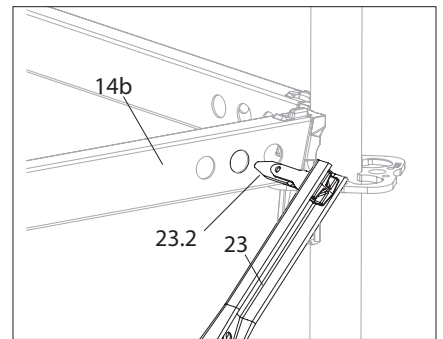

Fig. A4.07d
4. Insert the tilt finger into the hole of the upper horizontal ledger (14b). (Fig. A4.07d)